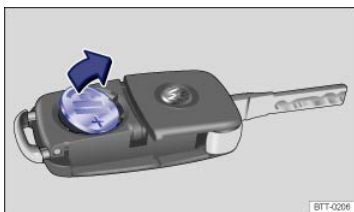

Fig. 22 Remote control vehicle key: Remove old battery.
- Use a thin object to pry the battery out of the battery compartment ⇒ Fig. 22.
- Position the new battery in as shown ⇒ Fig. 22 and press it into the battery compartment (opposite to direction of the arrow) ⇒ .